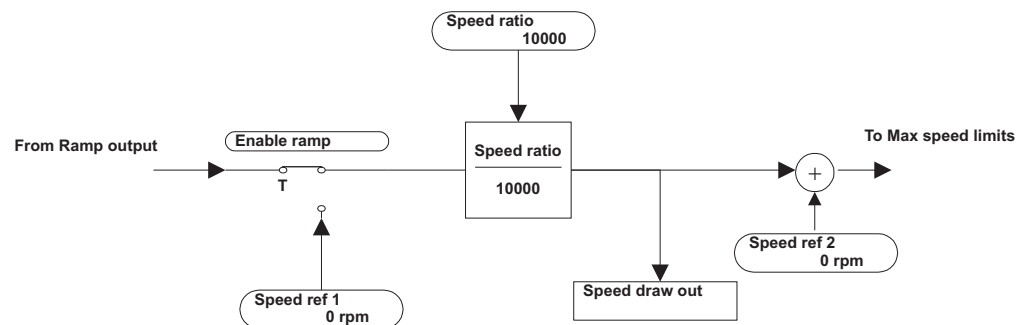

Figure 5.14.5.1: Speed draw function
This function allows application of a configurable speed ratio (**Speed ratio**) to the main reference **Speed ref 1**. The **Speed ratio** value can be set from 0 to 32767 if defined in digital form. It can be set from 0 to 20000 (0 to +10V) if assigned by an analog input. This function is useful in “sectional” systems when a draw value is required between the different motors used (see example in Figure 5.14.5.2). The resulting speed reference value can be read through the **Spd draw out** parameter through a programmable analog output.